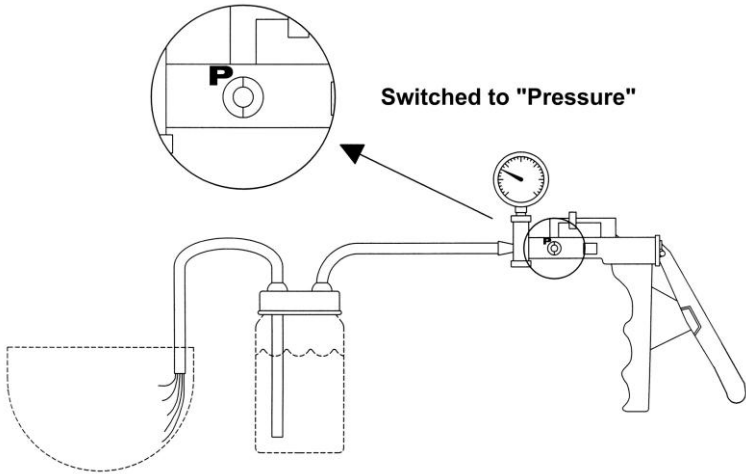

Figure 2-2 – Liquid Transfer Procedure
The liquid transfer procedure uses the pressure feature of the Geotech Hand Pump to push liquids from one container into another (as shown in Figure 2-2).
2. Connect the piece of  $\frac{1}{4}$ " inside diameter (ID) tubing between the lid outlet marked "PUMP" and the Geotech Hand Pump as shown in Figure 2-2. Push the appropriately sized tubing through the lid of the container until the end of the tubing is about  $\frac{1}{8}$ " to  $\frac{1}{4}$ " from the bottom of the container.